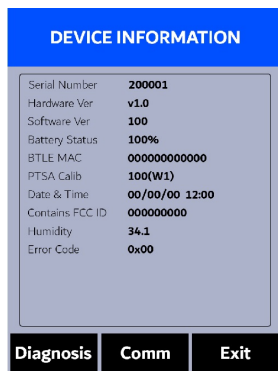

Figure 6.
The **DEVICE INFORMATION** screen is launched when **System** (OK) is pressed in the measurement mode. This screen contains the device serial number, software version, and hardware version (Figure 6). The battery life as a percentage and the MAC addresses for main module also shown.